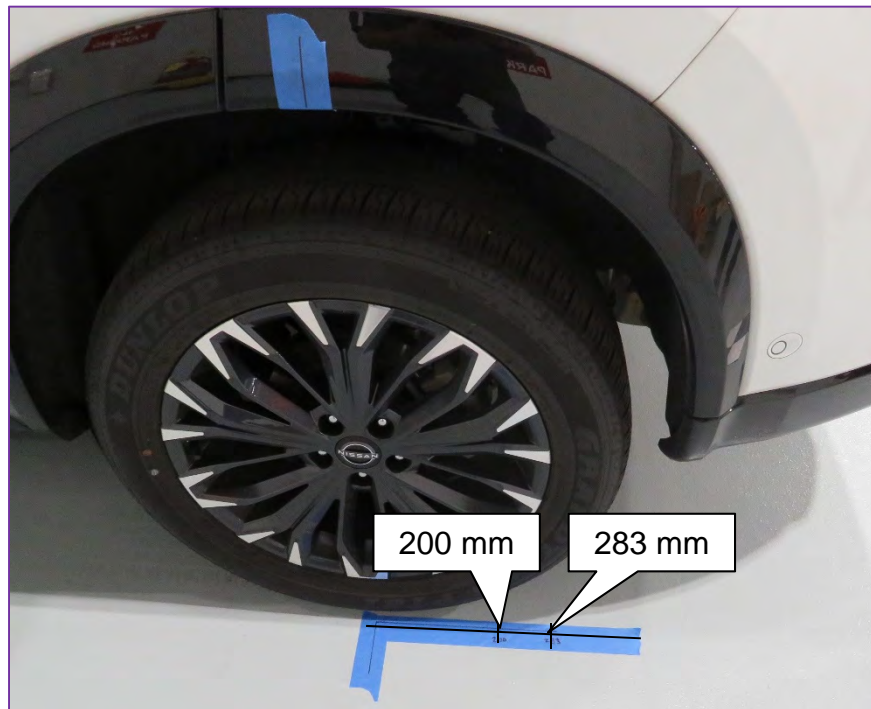

Figure 103
65. Measure 200 mm and 283 mm from the center point of the driver (LH) side rear wheel, and then make a mark at each measurement, as shown in Figure 103.